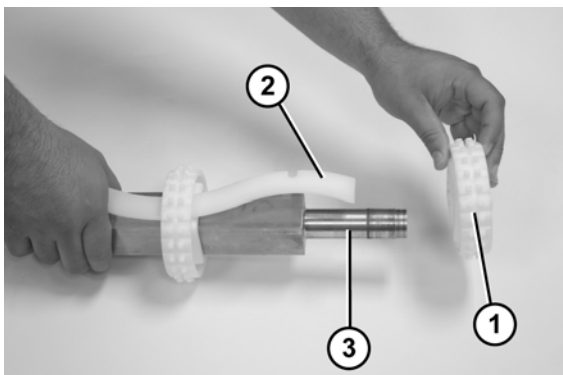

Figure 66
10. Slide the sprockets (**Figure 66, item 1**) and the sprocket alignment bar (**Figure 66, item 2**) off the drive spindle (**Figure 66, item 3**).